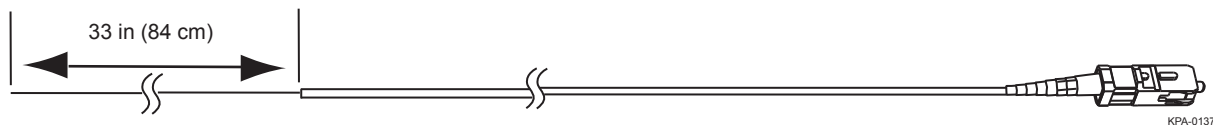

Figure 22 — Pigtail Length
Step 3: Use the Buffer Tube Ring Cutter (p/n 3206001-01) to remove 900 micron jacket from pigtails as indicated in Figure 22.